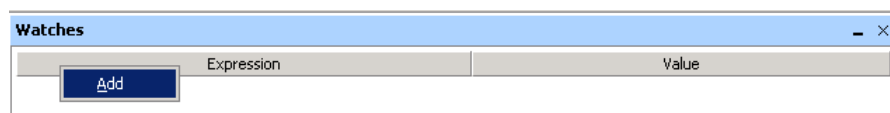

Figure 40. The Watches window.
2. Right-click on the gray bar and click **Add**, as illustrated in Figure 40.